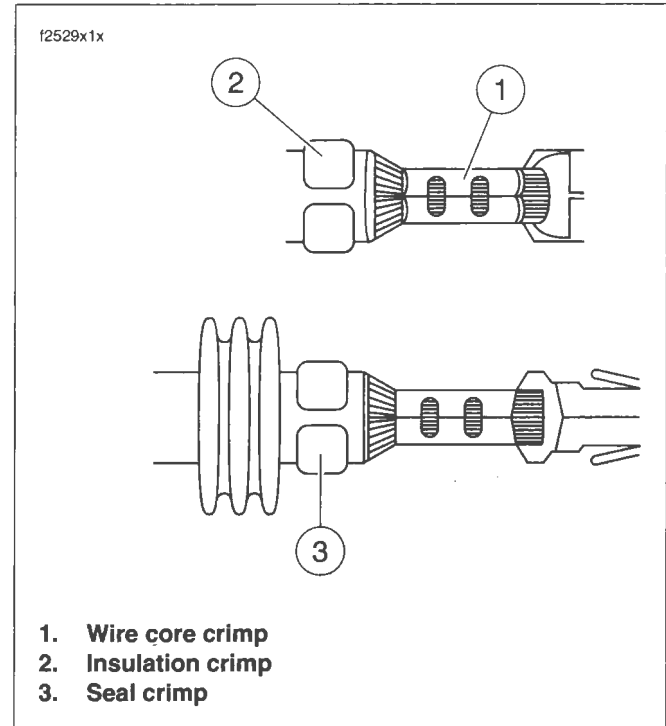

Figure B-34. Inspect Core and Insulation/Seal Crimps
1. See Figure B-34. Identify the correct die for the insulation/seal crimp (2).
1. See Figure B-34. Inspect the wire core crimp (1). The tails should be folded in on the wire core without any distortion or excess wire strands.
2. Inspect the insulation (2) / seal (3) crimp. The tails of the terminal should be wrapped around the insulation without distortion.